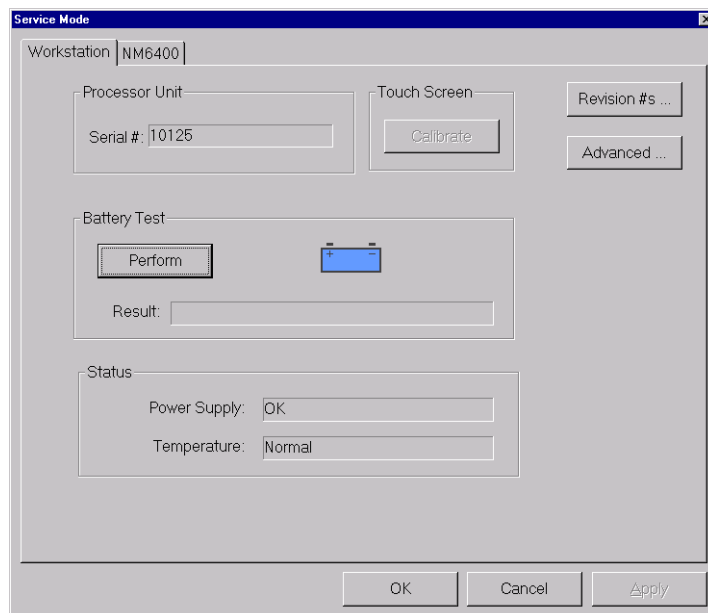

FIGURE 1-2. WPU Serial Number Location
- 1.5 Access the main Service Mode screen. Select the Workstation tab. Record the WPU (Processor Unit) serial number listed on the NM6K Service Mode page for future reference. Touch the OK button to close this dialog. Refer to FIGURE 1-2.